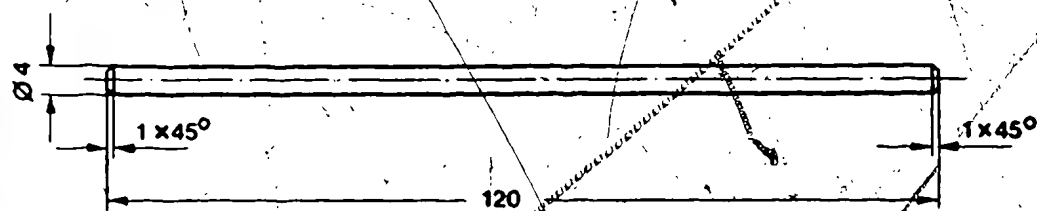

Fig. 18
Mount the governor on the fuel injection pump — to do this, center the sliding sleeve (72) by inserting a home-made guide pin (see Section 6, Fig. 18) through the hole in the spring retainer (30) to the camshaft.